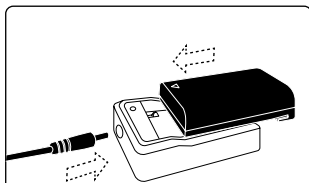

FIGURE 2
- Insert the charger into the charging adaptor. Connect the li-ion battery onto the charging adaptor. Plug the charger into a power source. (Fig.2)